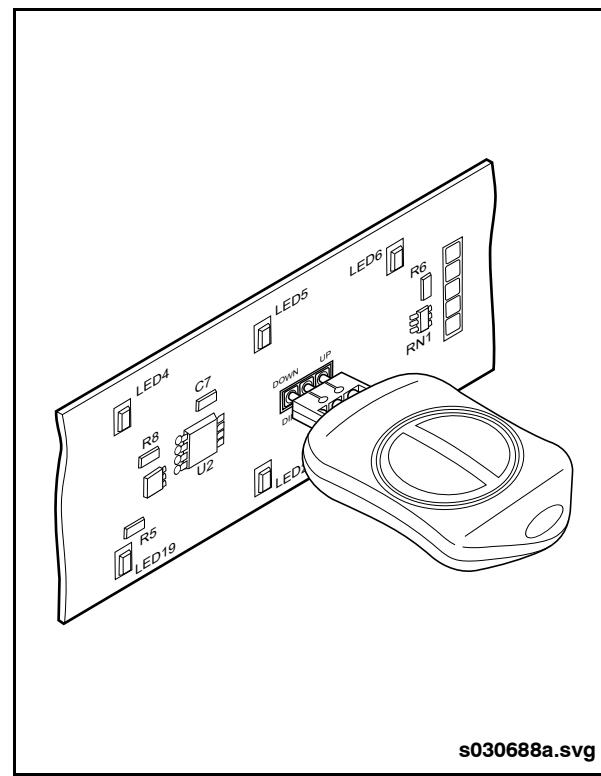

Fig. 9-20: Lighting Board Dimming Adjustment
5. Place the pins of the programming fob onto the programming pads. Press the button on the DOWN side of the fob to reduce lighting intensity and press the button on the UP side of the fob to increase lighting intensity. See "Fig. 9-20: Lighting Board Dimming Adjustment" on page 40.